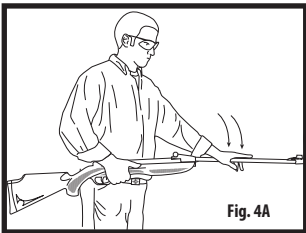

Fig. 4A
3. Hold the gun close to your body by placing the stock of the gun (A) on your upper thigh
4. With the palm of your hand, sharply tap the muzzle end (E) of the barrel (Fig. 4A) to expose the breech.